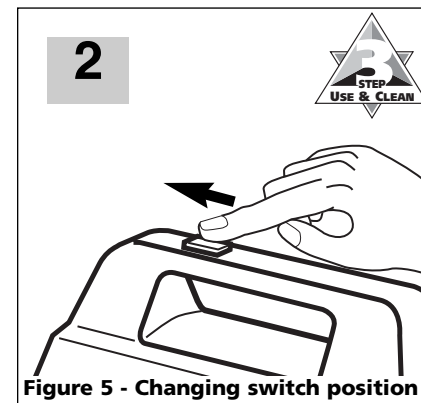

Figure 5 - Changing switch position
1. Turn the power switch to 'High' (see Figure 5). **It should take 1-2 minutes to see paint flow up the tube to the roller cover.** (NOTE: If paint does not flow within two minutes, turn motor off, remove motor housing from the canister, add appropriate thinner and stir